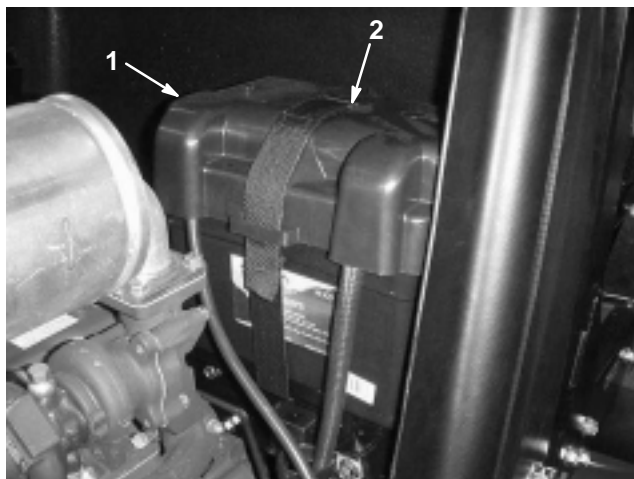

Figure 51
2. Remove the battery strap and cover (Fig. 51).